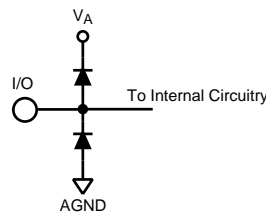

Figure 2.
- (1) The inputs are protected as shown below. Input voltage magnitudes above  $V_A$  or below GND will not damage this device, provided current is limited per Note 4 of the Absolute Maximum Ratings Table. However, errors in the A/D conversion can occur if the input goes above 2.6V or below GND as described in the Operating Ratings section. See Figure 2.
- (2) With a full scale differential input of  $2V_{P-P}$ , the 14-bit LSB is  $122.1\text{ }\mu\text{V}$ .
- (3) Typical figures are at  $T_A = 25^\circ\text{C}$  and represent most likely parametric norms at the time of product characterization. The typical specifications are not ensured.
- (4) Parameters specified in dBFS indicate the value that would be attained with a full-scale input signal.
- (2) With a full scale differential input of  $2V_{P-P}$ , the 14-bit LSB is  $122.1\ \mu\text{V}$ .
- (4) This parameter is specified by design and/or characterization and is not tested in production.
- (2) With a full scale differential input of  $2V_{P-P}$ , the 14-bit LSB is 122.1  $\mu\text{V}$ .
- (5)  $I_{DR}$  is the current consumed by the switching of the output drivers and is primarily determined by load capacitance on the output pins, the supply voltage,  $V_{DR}$ , and the rate at which the outputs are switching (which is signal dependent).  $I_{DR} = V_{DR}(C_0 \times f_0 + C_1 \times f_1 + \dots + C_{13} \times f_{13})$  where  $V_{DR}$  is the output driver power supply voltage,  $C_n$  is total capacitance on the output pin, and  $f_n$  is the average frequency at which that pin is toggling.